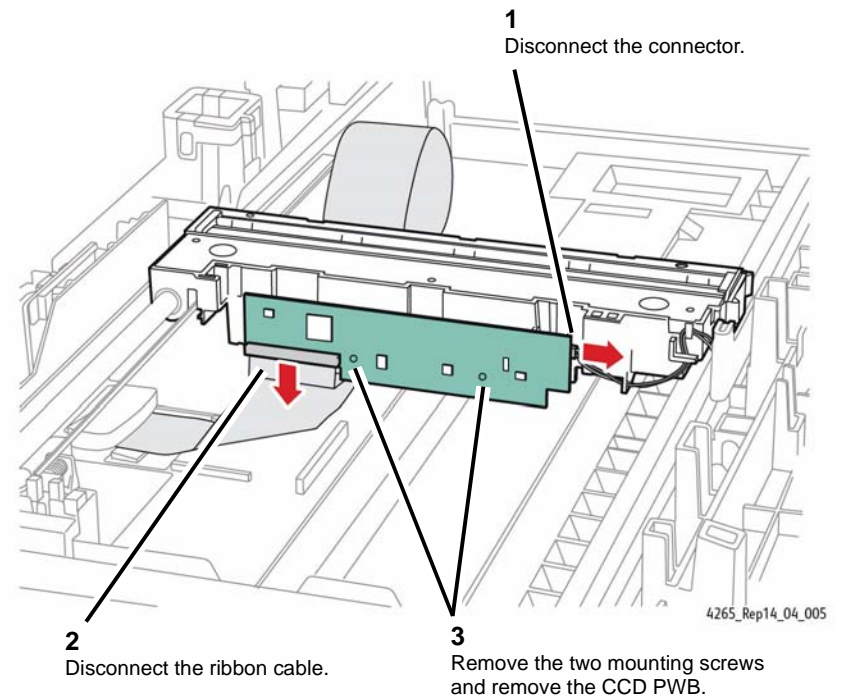

Figure 5 Removing the Scanner CCD Module PWB
8. Remove the Scanner CCD Module PWB (Figure 5).